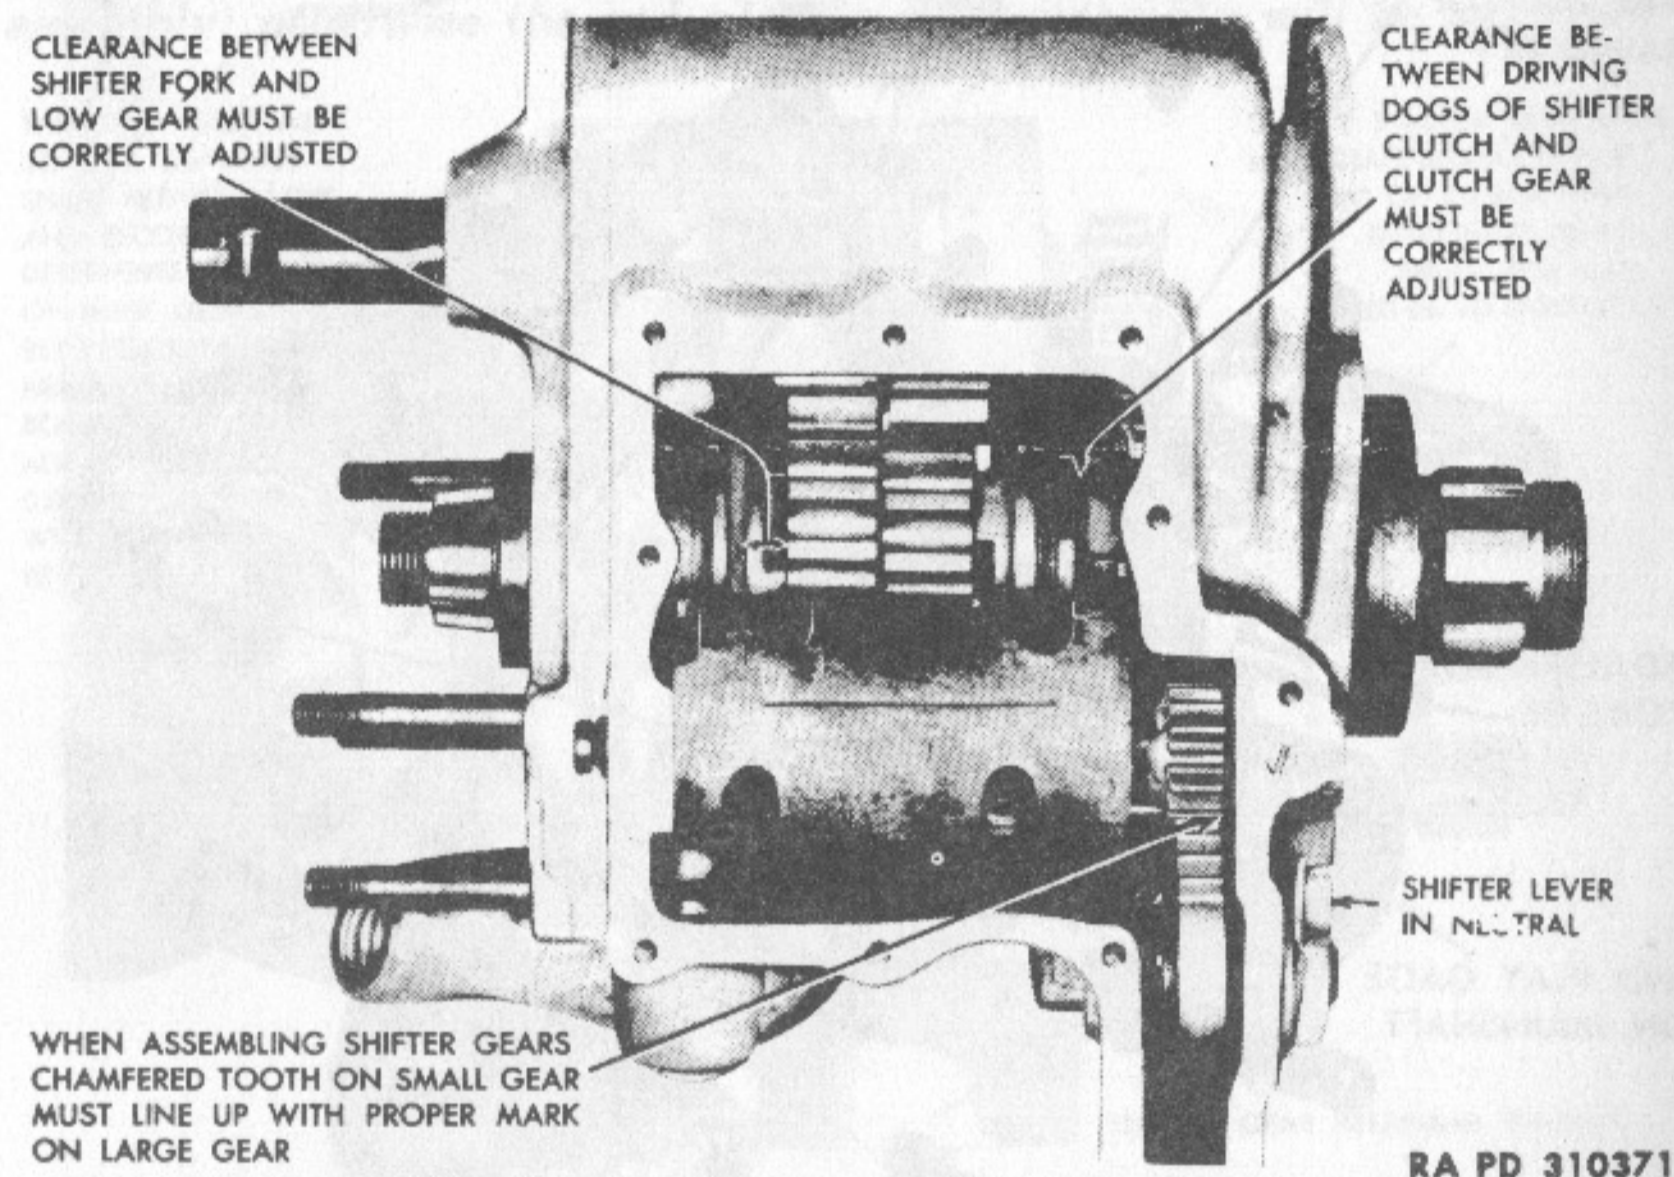

Figure 106—Locations for Measuring End Play of Low and Second Gears Between Retaining Bracket and Side Cover
(4) After the correct mainshaft end play adjustment has been established, remove mainshaft from case and set aside the spacer washer selected, to be sure that it goes into the final assembly.
e. **Adjust End Play of Low and Second Gears Between the Retaining Bracket and Case Side Cover** (fig. 106). The second gear retaining bracket is mounted in the transmission case to locate and retain the low and second gears on the mainshaft. The low and second gears must have 0.005 to 0.007 inch end play between the face of the
(4) **INSPECT SHIFTER CLUTCH AND LOW GEAR SHIFTER FORK CLEARANCES** (fig. 106). Locate the shifter cam in neutral position so that the highest points of the high gear driving dogs overlap about $\frac{1}{8}$ inch.
(b) **Check Clearances** (fig. 106). Insert the thickness gage between the driving dogs of the shifter clutch and the clutch gear (overlapped about $\frac{1}{8}$ inch) to determine if clearance is between 0.283 and